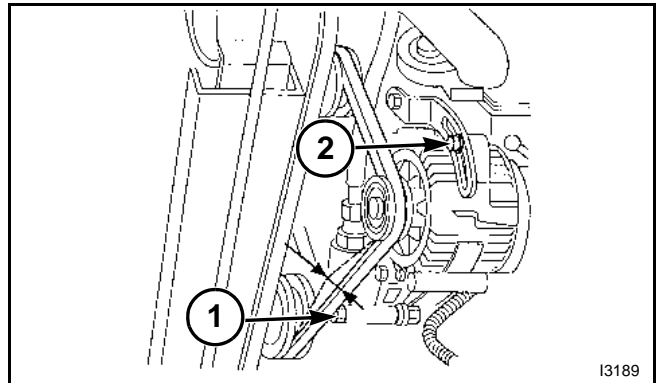

FIG. 4
FIG. 4: To adjust belt tension, loosen alternator pivot bolt and nut (1) and tensioning bracket bolt (2). Pull outward on top of alternator to correctly tension belt and tighten bolt first and then tighten pivot bolt.